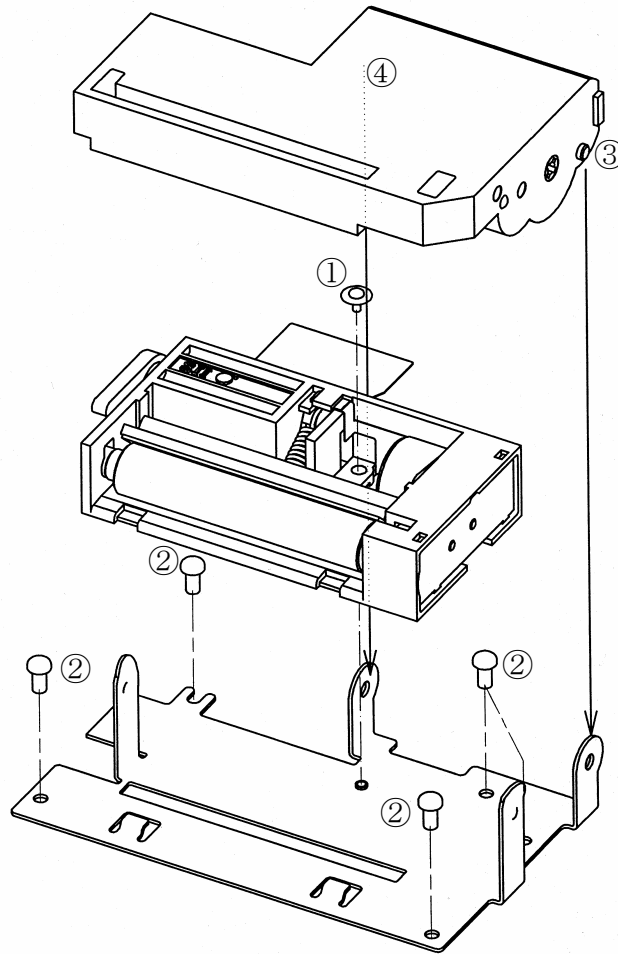

Figure 9-1 Installation
- 2) The recommended tightening torque is 3 kgf cm (① in **Figure 9-1**).
- 3) Use four screws to secure the mount on the cabinet. Recommended screws: M2.6 (② in **Figure 9-1**).
- 5) Install the ACU6205 autocutter unit from the grounding plate side (③,④ in **Figure 9-1**).